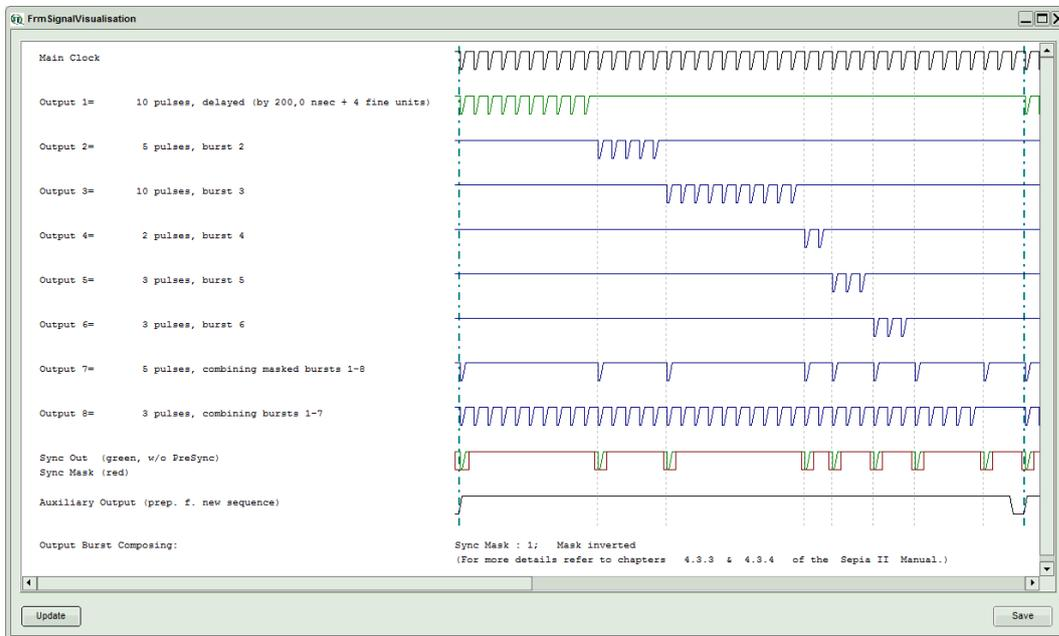
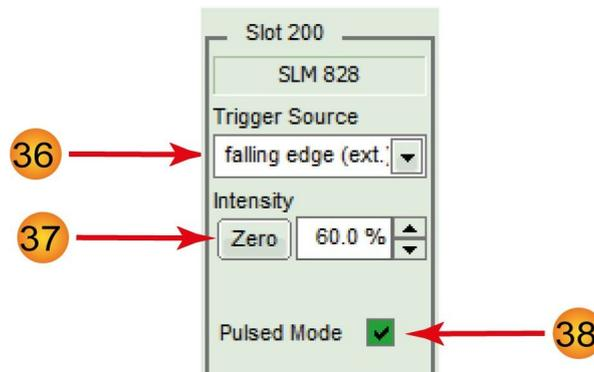

Fig. 52: Visualization of the pulse sequence.
Fig. 53: SLM 828 GUI
The GUI of the SOM 828-D (22) shares most of the control elements with the SOM 828, as shown in Fig. 53. The main difference reside in the control elements for the external triggering source (26) and the sequencer panel (27). Please refer to the previous section for a description of the control elements (28) to (30). **Set Main Clock and Triggering**
**Only 1st:** This check box only appears when a channel has been set into combination mode. Ticking this box will mask all pulses in a burst pattern except for the first one for each phase. A phase grouping burst patterns from several channels will in this case emit one pulse synchronized with the start of each combined channel. The effect of this option can be clearly seen in Fig. 52 by comparing the output channels 7 (*Only 1st* checked) and 8 (*Only 1st* not checked). In output channel 7, only the first pulse from each combined channel is active while the others are masked. Channel 8, on the other hand, outputs all pulses from the combined channels.
As an example, Fig. 52 shows the visualization of the pulse pattern corresponding the combiner/delayer settings given in Fig. 53. Please note that the output comments in the left hand side of the window also indicate which channel have been combined into a specific channel.
The control element for the SLM 828 **23** is shown in Fig. 53 below: